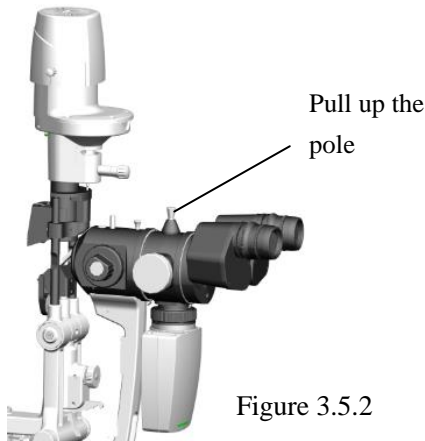

Figure 3.5.2
2. When capturing images, make sure that the beam splitter lever is in the pulled up position. At this point, the microscope image can be captured, and the light pass through eyepiece will decrease and the field of view brightness will decrease (see Figure 3.5.2).